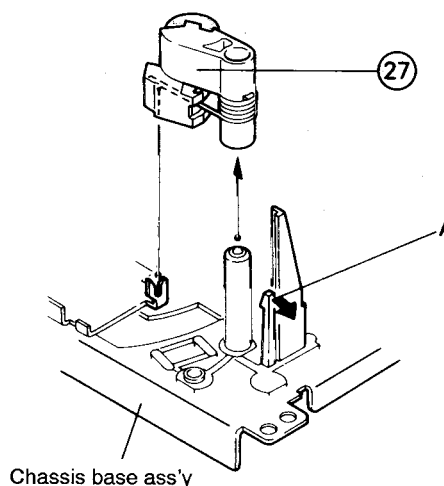
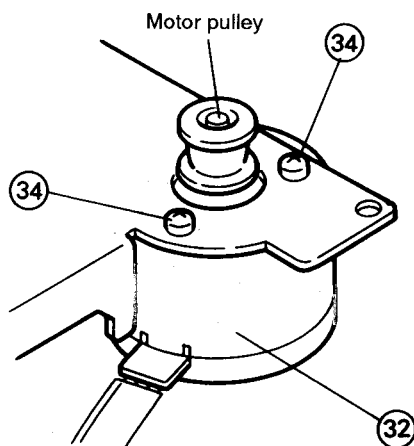

Fig. 7-26
Fig. 7-27
■ Pinch Roller Ass'y (Refer to Fig. 7-26)
1. While spreading the pawl A retaining the right side pinch roller ass'y (27) in the arrow direction, pull out the ass'y upward.
■ Capstan Motor and Flywheel (Refer to Figs. 7-27~7-31)
1. Turn over the cassette mechanism ass'y (Refer to Fig. 7-27).
3. While spreading the two pawls (B and C) retaining the FM bracket ass'y in the arrow direction, remove the ass'y (Refer to Fig. 7-27).